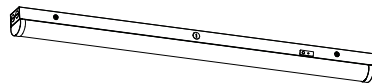

Figure 16
Step 3. Connect the wires according to the wiring instructions, and assemble the disassembled lamp back. (Figure 16)